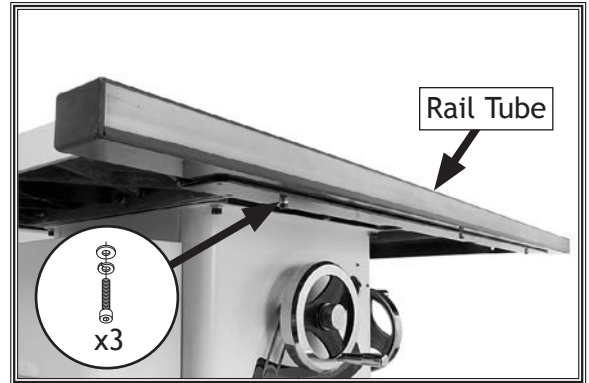

Figure 19. Model W1819 tube attached to front rail.
11. **W1819 ONLY:** Install the 62" front rail tube onto the 50" front rail with the three M6-1 x 16 cap screws, 6mm flat washers, and 6mm lock washers, as shown in **Figure 19**.